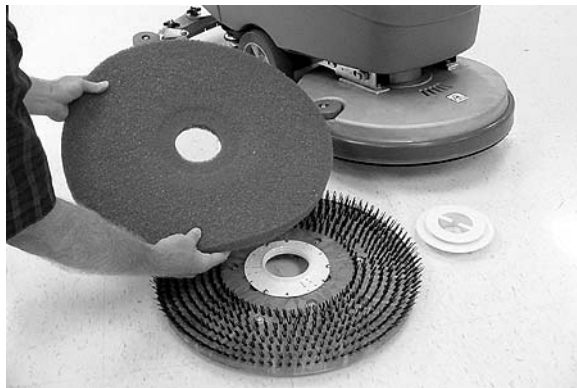

FIG. 40
5. Remove the pad/brush and clean. Rotate pad or replace when worn (Figure 40).